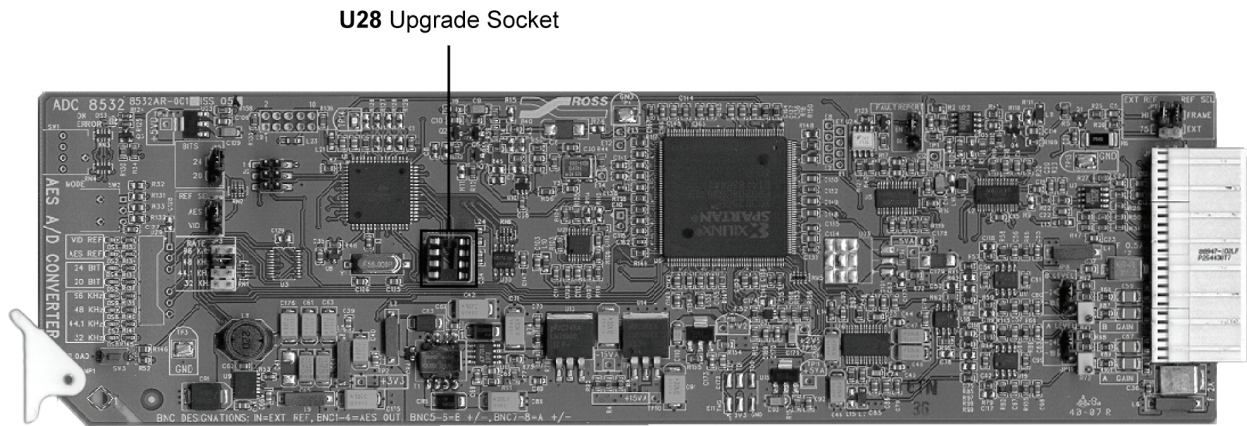

Figure 7. ADC-8532 Upgrade Socket
1. With the card out of the frame, refer to **Figure 7** and the card labeling to locate **U28**.